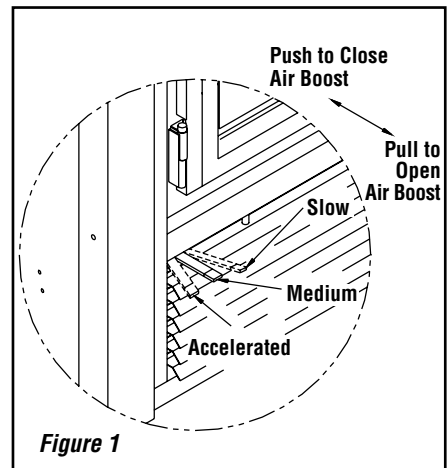

Figure 1
This is the recommended mode of operating the BIS® Ultima-1 fireplace and should be the one normally used since it will deposit the least amount of creosote on the glass and in the chimney. The combustion air control must be 3/4 closed and pushed in to close the air boost (**Figure 1**). The precise setting will depend on many factors, including chimney length and the moisture content of the wood.
Creosote may accumulate on the glass door. This method of burning should be used only after operating the BIS Ultima-1 fireplace with the air control opened (**Figure 1**) to produce a hot fire for about an hour or at medium pace for at least three (3) hours. Slow combustion can be used at night in order to reduce the heat output and to prolong the burn. The loading time will be between 6-8 hours.
The BIS Ultima-1 fireplace will operate best if attention is given to operating the unit with the damper fully opened (**Figure 1**) after refueling in order to bring the firebox and the chimney system up to their optimum operating temperature. Combustion efficiency is relative to firebox temperature. A temperature of 500° C (932° F) and up, with a visible flame, in the upper part of the firebox indicates a maximum efficiency. To obtain this temperature, the fireplace must be operated with the primary air and air boost controls fully opened during 10 to 20 minutes after reloading, depending on the heat and on the moisture content of the wood.